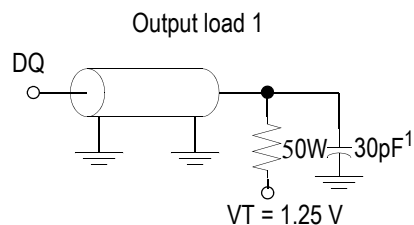

FIG. 1
| Output load            | Fig. 1 & 2               |
- Test conditions as specified with output loading as shown in Fig. 1 unless otherwise noted.